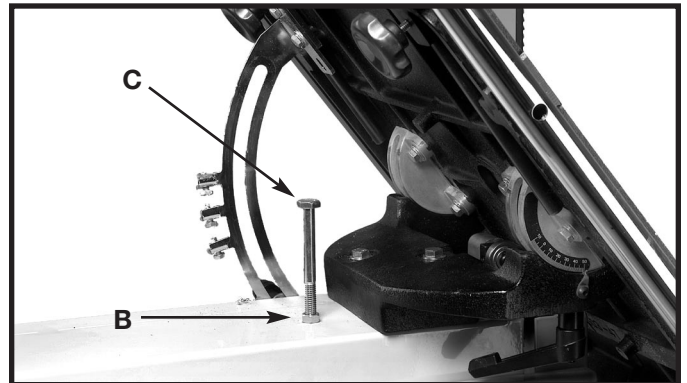

Fig. 25
3. If an adjustment is necessary, loosen the locknut (B) Fig. 25 and tighten or loosen the adjusting screw (C) until the head of the screw (C) contacts the bottom (D) of the table when the table is 90 degrees to the blade.
4. Tighten the locknut (B).